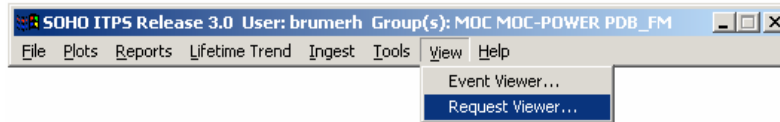

Figure 4: ITPS Request Viewer Selection
- Select “View” from the ITPS Main Interface menu (see Figure 4).